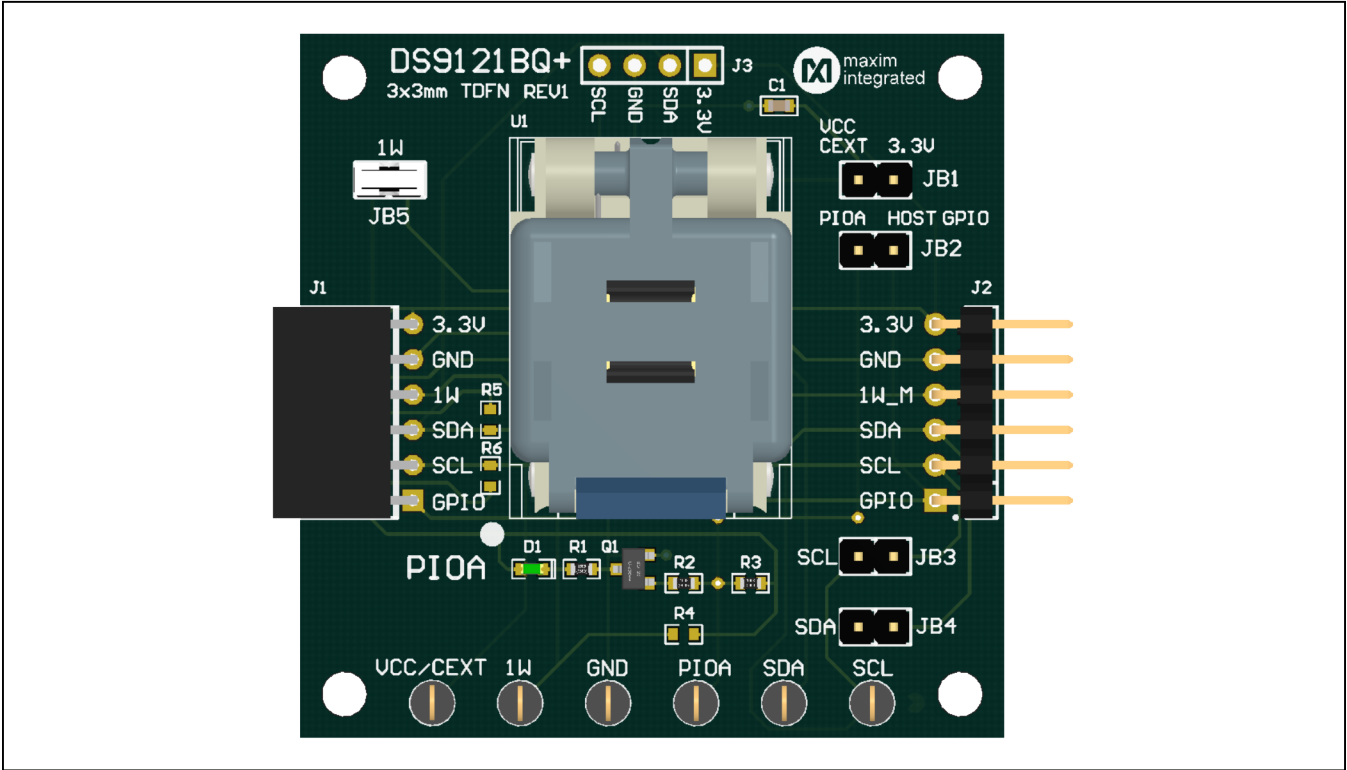

Figure 1. DS9121BQ Socket Board
- 7) Install the jumpers for the DS28E07 IC as described in Table 1, and reference Figure 1 for their locations.